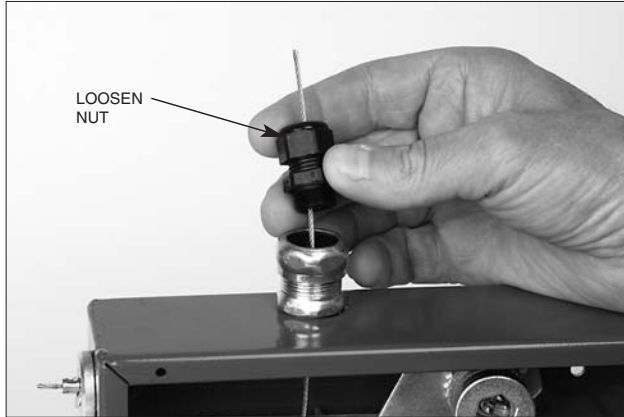

Figure 4-43.
6. Loosen the nut on the strain relief and thread the wire rope through the strain relief. See **Figure 4-43**.